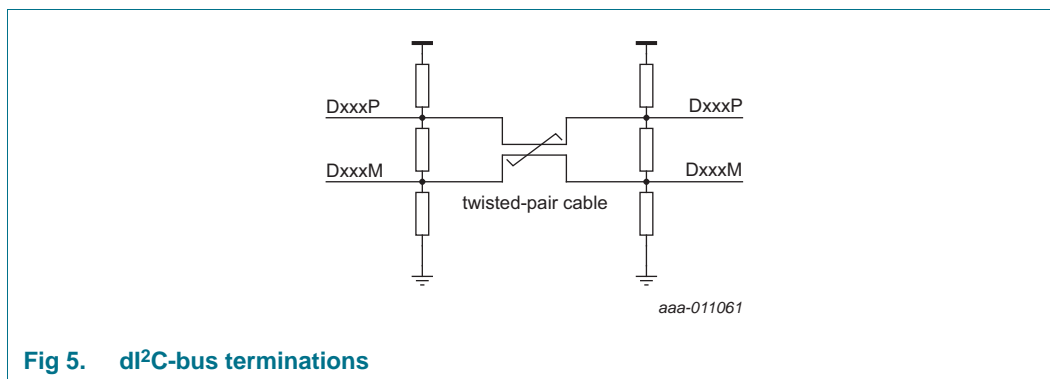

Fig 5. dI2C-bus terminations
The dI2C-bus side of the PCA9614 is powered from the VDD(B) supply pin. The dI2C-bus is also biased to an idle state (D+ more positive than D-) to be compatible with the I2C-bus/SMBus wired-OR scheme, when not transmitting traffic (data). This allows every node to receive broadcast messages from the Master, and return ACK/NACK and data in response. Biasing is done with additional resistors, connected to VDD(B) and VSS (the local ground), as shown in Figure 5. The transmission line is terminated in the characteristic impedance of the cable, typically 100  $\Omega$ . This is the value defined by three resistors, the other two resistors providing the idle condition bias to the twisted pair.